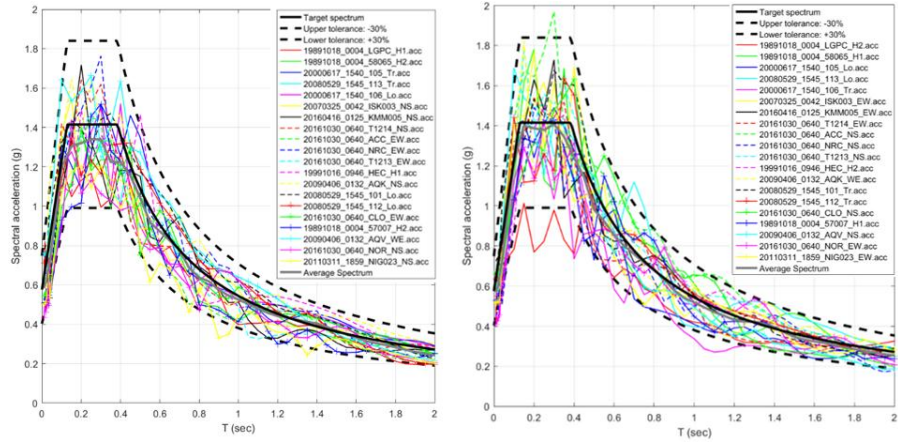

Figure 4. Response spectra of the selected ground motions of Figure 1, after spectral matching.
- **Matching phase:** Once N unscaled records are selected, and if required by the User (for example if the average spectral accelerations is distant from target), they undergo a spectral matching procedure by iterative scaling in the frequency domain until the response spectrum is approached within a given tolerance (Figure 3, Figure 4).